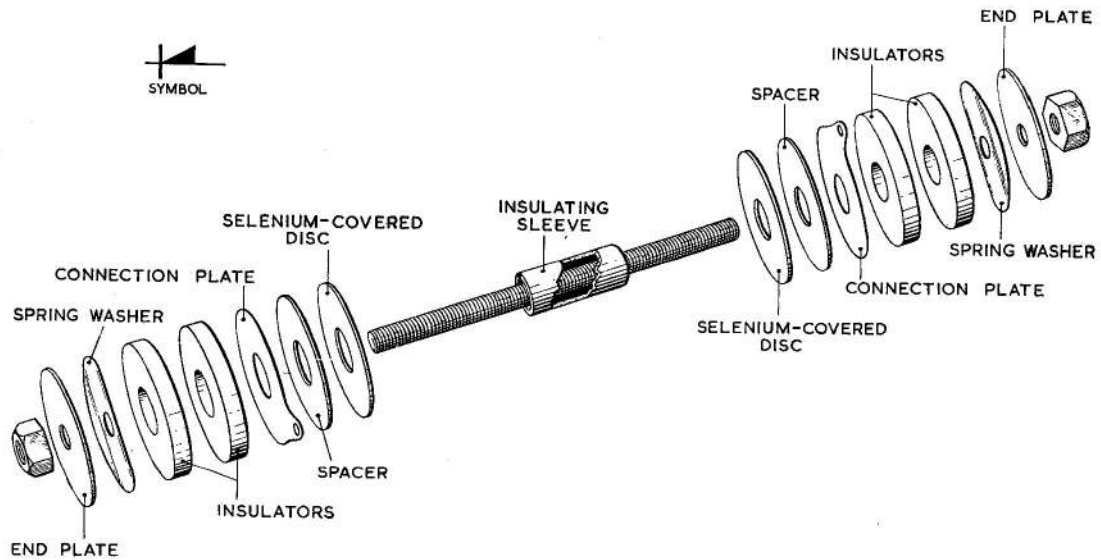

Fig. 1. Exploded view of rectifier, Westinghouse, Type 5D2
2. The rectifier (*fig. 1*) is of a metal, dry-plate type, the action of which is based on the fact that selenium-covered discs have a greater resistance to current flow in one direction than in the opposite direction.